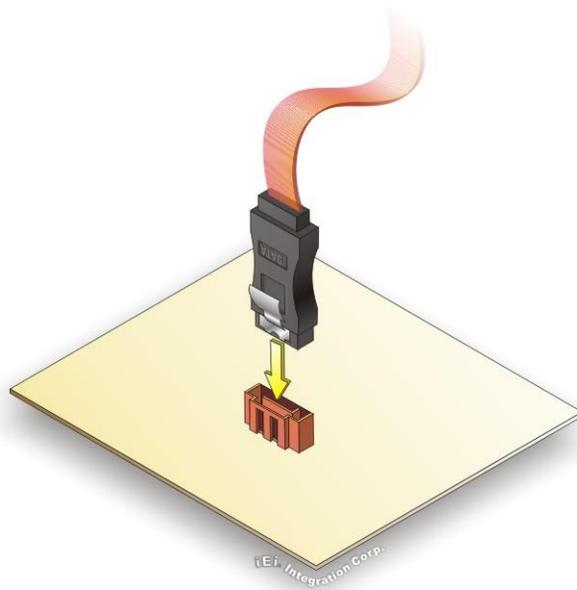

Figure 4-10: SATA Drive Cable Connection
- Step 2:** **Insert the cable connector.** Insert the cable connector into the on-board SATA drive connector until it clips into place. See **Figure 4-10**.